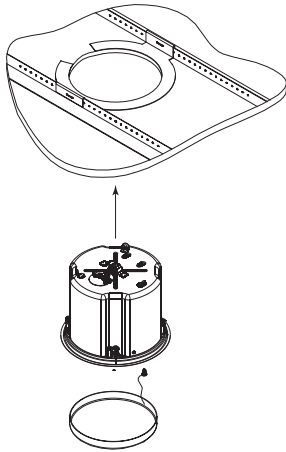

Figure 11: Mount Speaker into Ceiling
Step 5: Mount the Speaker Into the Ceiling (Figure 11)